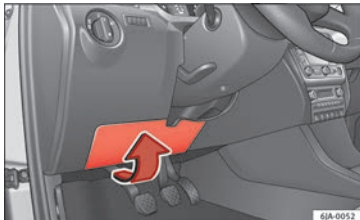

Fig. 54 On the driver-side dash panel: fuse box cover
- Carefully tilt the cover in the direction indicated by the arrow and remove it»» **Fig. 54.**